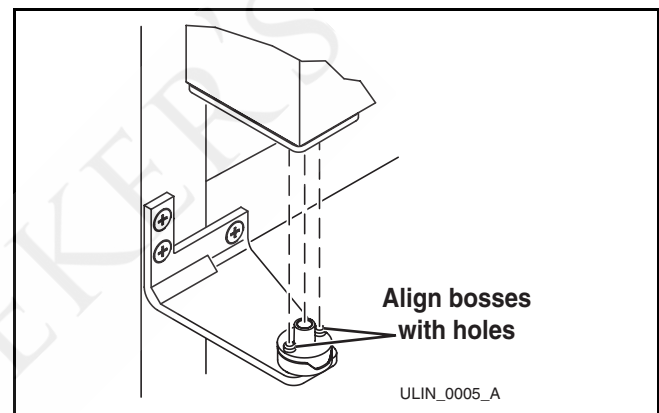
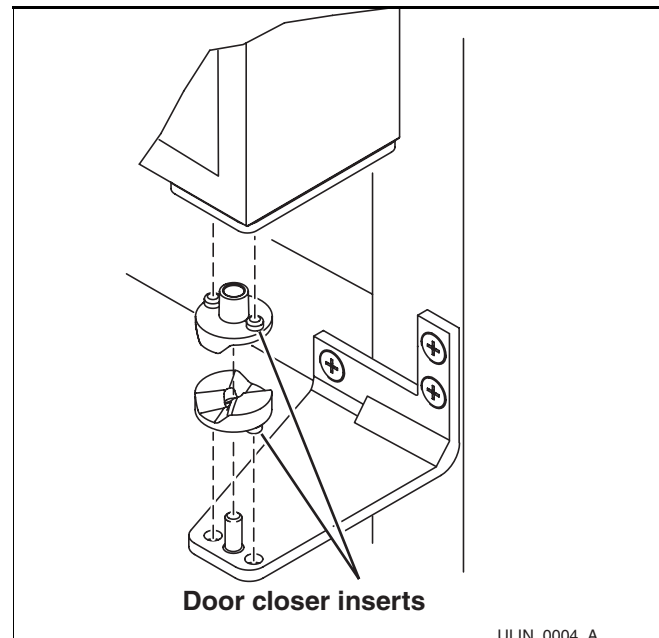

Figure 36
Figure 37
4. Install the removed top hinge mount on opposite side **BOTTOM** (**Figure 36**).
5. Remove the two door closer inserts (**Figure 37**) from the existing bottom hinge and install as shown on the new bottom hinge (**Figure 36**).
9. Holding door upright with top of door tilted forward, place hole of door pivot plate on bottom hinge screw pin/closer inserts (**Figure 36**).